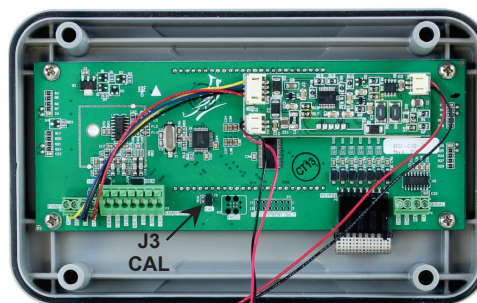

Figure No. 13
Calibration of the indicator is accomplished entirely by the keypad. To enter setup and calibration, the calibration jumper must be removed and re-installed while the indicator is on. The calibration jumper is located on the main printed circuit board. Refer to Figure No. 13 for the location of the jumper. Loosen the four (4) Phillips screws securing the rear housing to the front housing, and remove the rear housing to access the calibration jumper.